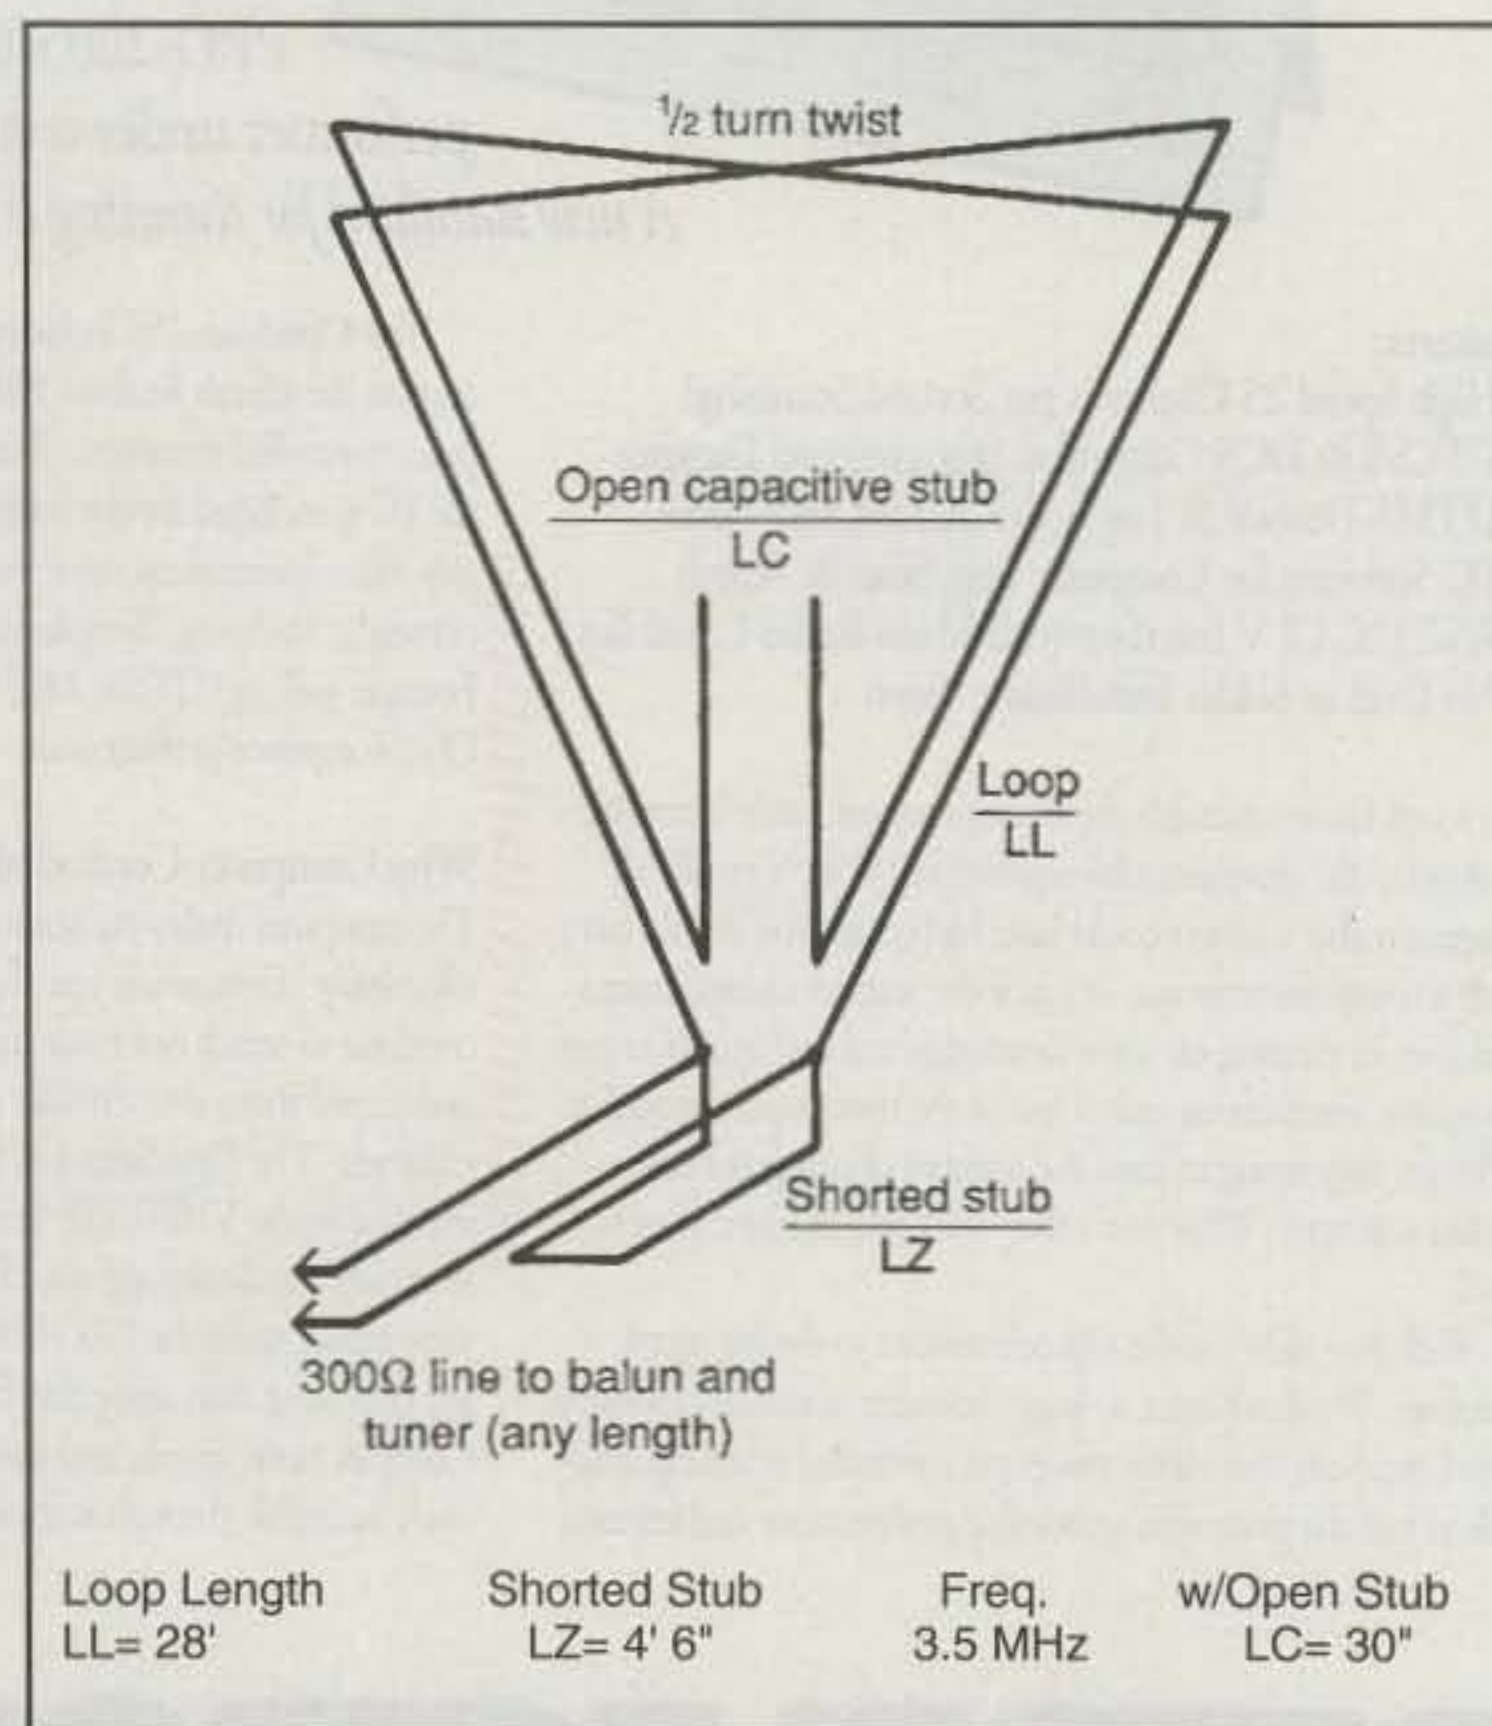

Fig. 1—The 80 meter DCTL dimensions.
The DCTL is a 28 foot delta loop fed at the bottom apex. The impedance is matched with a shorted hairpin stub, and the resonant frequency is tuned with an open stub. The whole antenna system, including the feedline, is made from 300 ohm twin lead. To complete your understanding of the DCTL, however, you'll probably need to look at fig. 1. Notice the
If you refer to fig. 1 and follow these simple steps, you'll have an antenna in about an hour. Use Radio Shack 15-1153 twin lead or the Antennas West Kit listed at the end of the article to make each section.
7. Now, with the 28 ft. loop (LL), locate the wires on opposite ends of the twin lead that **DO NOT** connect to each other. This is critical and is best done with an ohmmeter looking for an open circuit (see fig. 1). Then label as **lead-in**. The other two opposing loop wires connect to the capacitive stub (LC).
8. With the 4 ft. 6 in. hairpin (LZ), short the two wires at one end together, solder, and cover with 1/4 in. shrink tubing.
11. Solder and heat shrink each connection per fig. 1. **DO NOT** put any two connections close together by taping or by using another piece of shrink tubing. This will cause excessive heating.